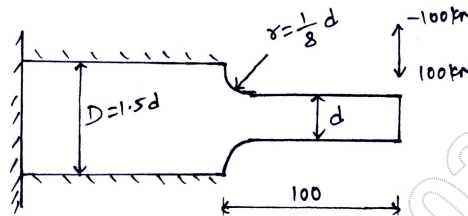

Fig.Q.4
- 4 A stepped shaft of circular cross section shown in Fig.Q.4 subjected to variable load which is completely reversed with a value equal to 100kN. It is made of SAE 1045 steel annealed ($\sigma_u = 586.4\text{MPa}$, $\sigma_y = 309.9\text{MPa}$, $\sigma_{-1} = 289.3\text{MPa}$). Determine the diameter 'd' and radius 'r', so that the max stress will be limited to a value corresponding to a FOS of 2. Notch sensitivity index = 1. (20 Marks)